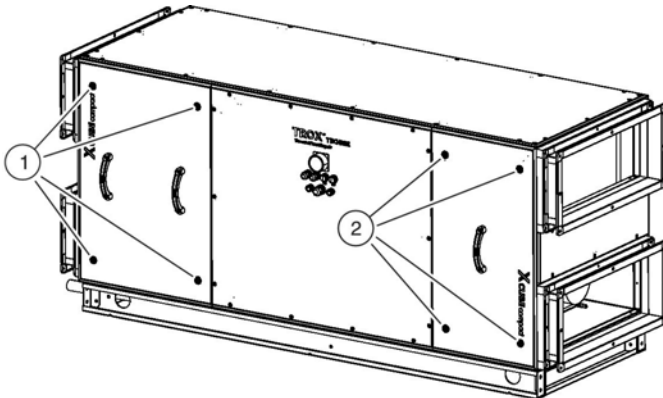

Fig. 53: Opening the inspection access panels
- ▶ Use a 10 mm Allen key to open the compression latches (Fig. 53/1+2) of the left and right inspection access panels at the front.